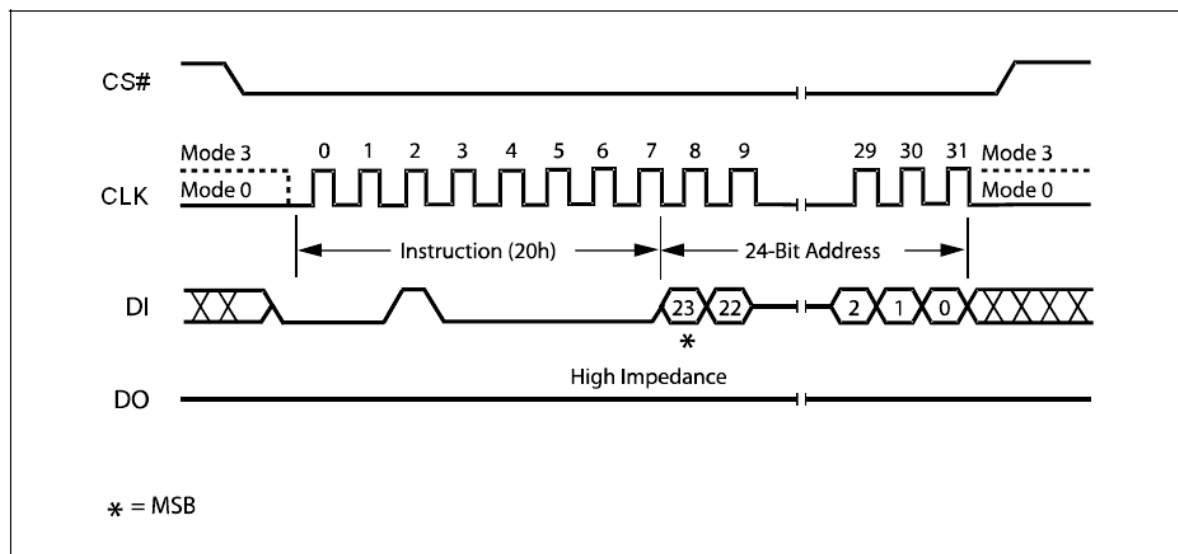

Figure 18. Sector Erase Instruction Sequence Diagram
The instruction sequence is shown in Figure 18. Chip Select (CS#) must be driven High after the eighth bit of the last address byte has been latched in, otherwise the Sector Erase (SE) instruction is not executed. As soon as Chip Select (CS#) is driven High, the self-timed Sector Erase cycle (whose duration is t_{SE}) is initiated. While the Sector Erase cycle is in progress, the Status Register may be read to check the value of the Write In Progress (WIP) bit. The Write In Progress (WIP) bit is 1 during the self-timed Sector Erase cycle, and is 0 when it is completed. At some unspecified time before the cycle is completed, the Write Enable Latch (WEL) bit is reset.